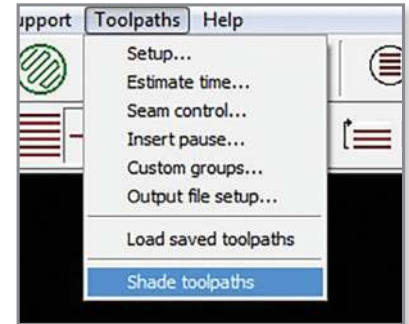

Figure 3: Toolpaths menu.
STEP 6: Under the *Toolpaths* menu, select *Shade toolpaths* (Figure 3).